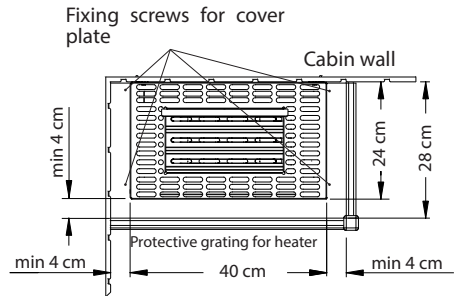

Fig. 1
1. First the cover plate of the heater must be removed. To do this, unscrew the 4 screws (Fig.1) and remove the cover plate.